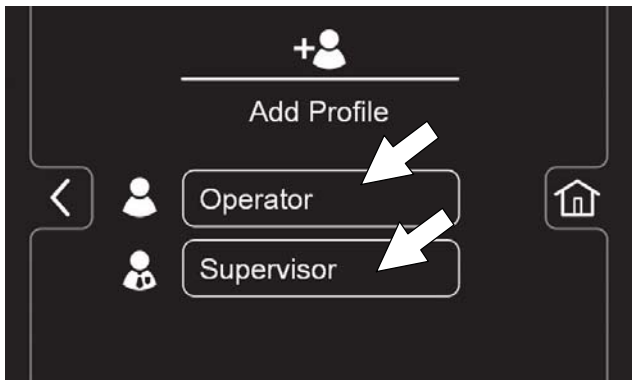

FIG. 160
3. Press the Operator button to add an Operator mode profile or press the Supervisor button to add an additional supervisor mode profile (Figure 160).